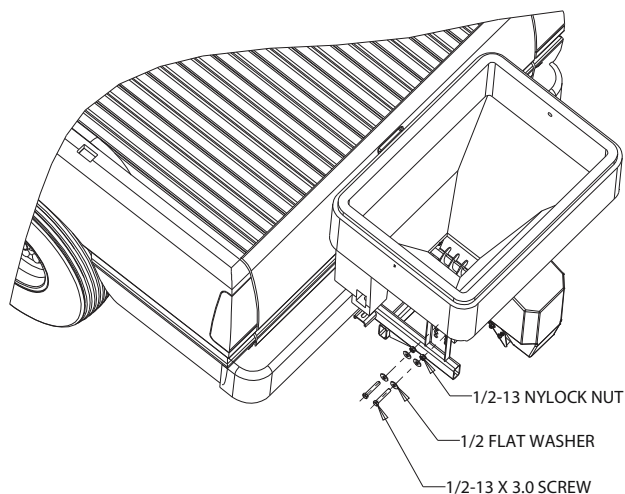

Fig. 3
3. Align holes in rear portion of the hopper with slots in frame uprights. Use slots which will position spreader with a slight upward tilt. Secure hopper assembly to frame using 1/2-13 x 3.0 screws, flat washers and nuts. Fig.3. Do not tighten fasteners at this time. Apply Antiseize on all stainless steel fasteners to avoid galling!